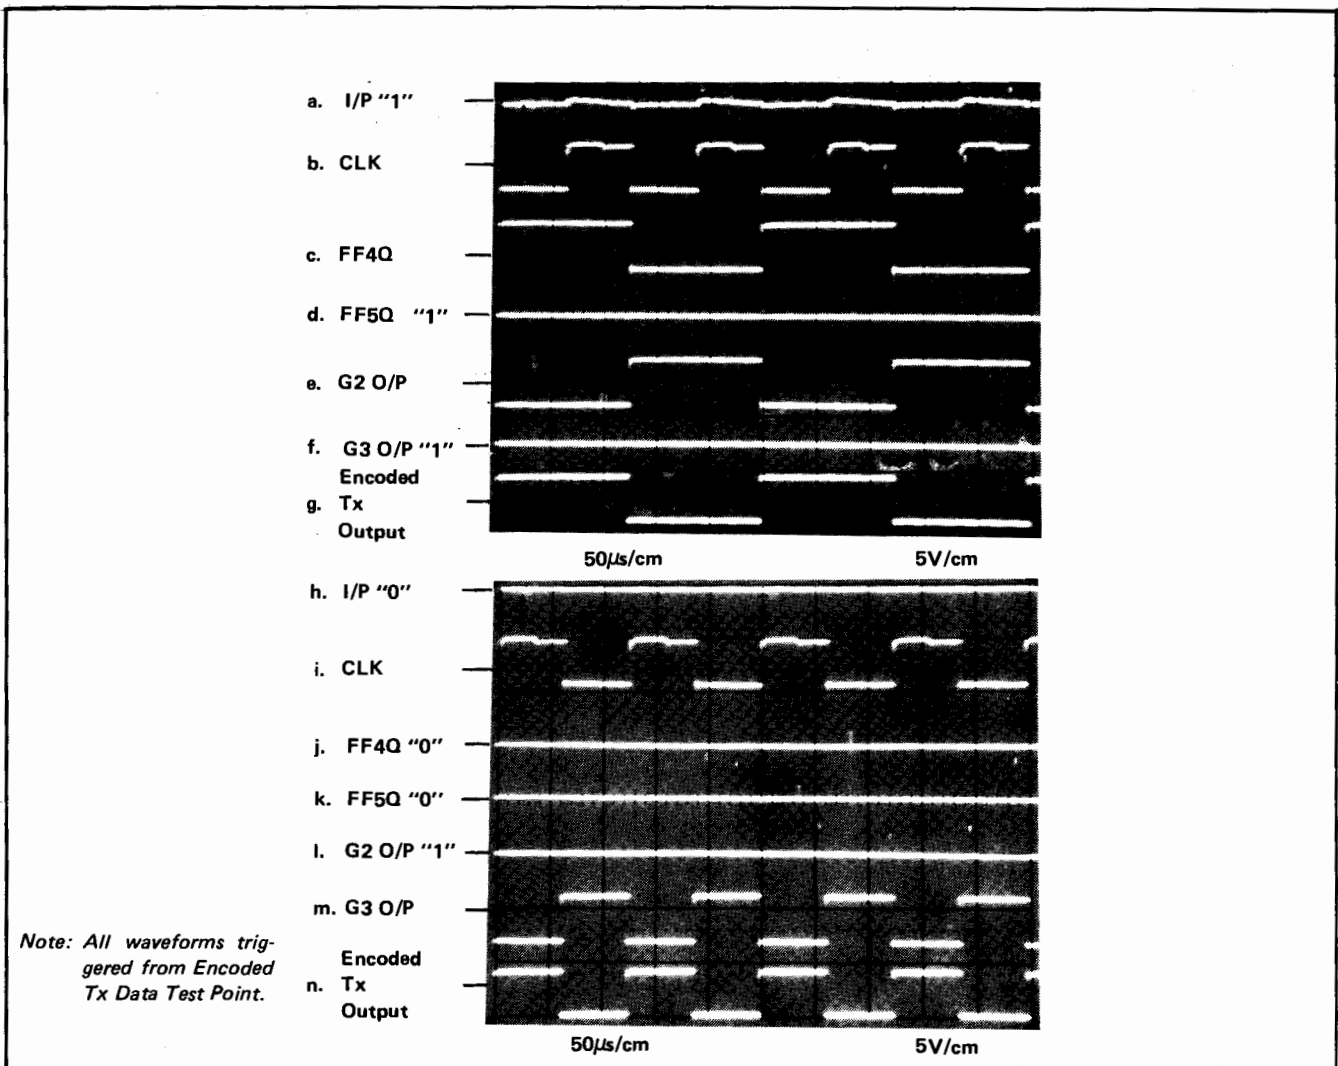

Figure A300-3 Line Coder Waveforms
- e. Figure A300-3 g. and n. show the waveform at the ENCODED Tx DATA test point for both a continuous logic 1 input and a continuous logic 0 input. (When the 37201A is powered on with the Data Medium switch set to Diagnostic Test, the input to the Line Encoder is a continuous logic 1, grounding U309 pin 11 produces a continuous logic 0 at the input to the Line Encoder).